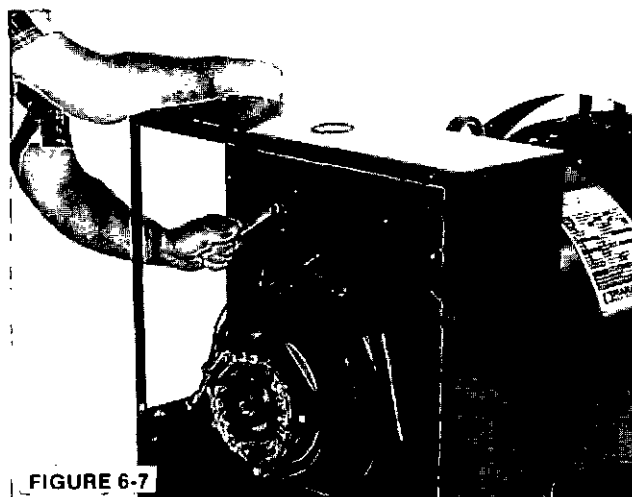

FIGURE 6-7
3. Remove bolts holding conduit box in place. (Figure 6-7.)
4. Remove conduit box. (Figure 6-7.)